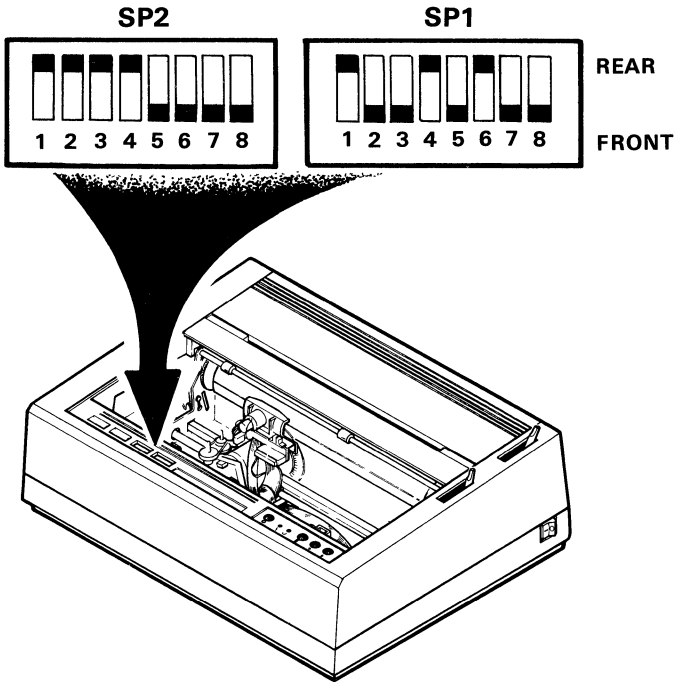

Figure 11-7 • LQP03 Configuration Switches
The LQP03 Letter-Quality Printer contains two banks of configuration switches that are factory set to standard parameters. If you need to change the configuration, the switches required for this operation are located on the top front of the LQP03 for easy access to the user. See Figure 11-7 for factory settings. **Note:** Before resetting the switches, check that you have turned the power off.
*Remaining SP1 Switches* Table 11-3 names the remaining SP1 switches and explains their function, and the meaning of front and rear position settings. Refer also to Figure 11-7.